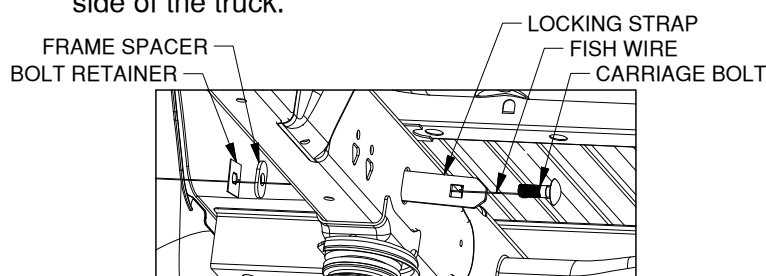

Figure C1: View looking at driver side frame.
1. **Install carriage bolts.** Locate the oval hole on the outside of the frame directly over the center line of the axle. To begin, place a 1/2" x 1-1/2" carriage bolt through a locking strap. Next, thread a fish wire onto the end of the carriage bolt. From the inside of the frame pass the fish wire through the oval hole located earlier. While holding the fish wire on the outside of the frame push the locking strap and carriage bolt into the frame, see Figure C1. Continue pulling on the fish wire until the threaded portion of the bolt is sticking out of the frame. Turn the carriage bolt until the square shoulder engages the square hole of strap. Before removing the fish wire, thread the oval frame spacer on the carriage bolt and into the oval slot. Remove the fish wire and thread a bolt retainer on the carriage bolt to hold the bolt in plate. Repeat this step on the other side of the truck.